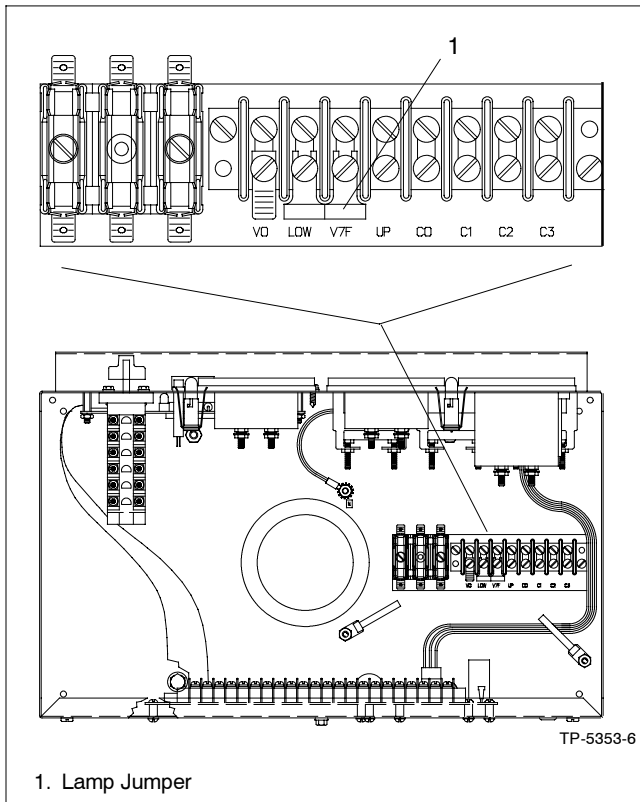

Figure 5-5 Meter Scale Lamp Jumper
4. Remove the controller cover and reposition the meter scale lamp jumper (see Figure 5-5) to match the position for desired voltage (shown in Figure 5-1, Figure 5-2, Figure 5-3, and Figure 5-4). Replace the controller cover.